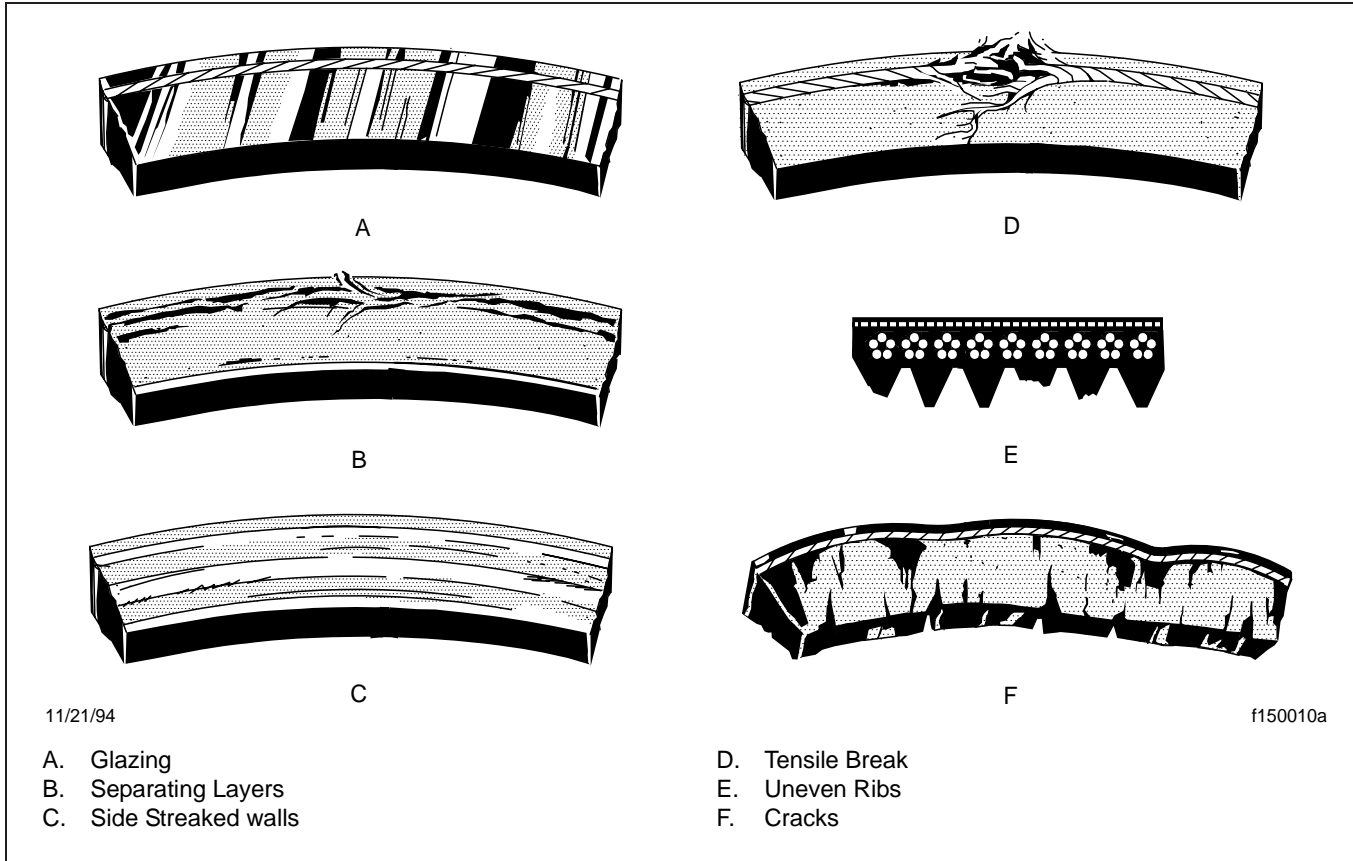

Fig 2, Drive Belt Replacement Conditions, V-Belts
1. Inspect the belt for glazing. See **Fig. 2**, Ref. A. Glazing is represented by shiny sidewalls, and is caused by friction created when a loose belt slips in the pulleys. It can also be caused by oil or grease contamination on the pulleys.
2. Check the belt for ply separation. See **Fig. 2**, Ref. B. Oil, grease, or belt dressing can cause the belt to fall apart in layers. Repair any oil or coolant leaks that are affecting the belts before replacing the drive belts. Do not use belt dressing on any belt.
3. Check the belt for a jagged or streaked sidewall. See **Fig. 2**, Ref. C. Jagged or streaked sidewalls are the result of foreign objects, such as sand or gravel in the pulley, or a rough pulley surface.
4. Check for tensile breaks; breaks in the cord body. See **Fig. 2**, Ref. D. Cuts in a belt are usually caused by foreign objects in the pulley, or by prying or forcing the belt during removal or installation.
5. Check for uneven ribs on serpentine (poly-V) belts. See **Fig. 2**, Ref. E. Foreign objects in the pulley will erode the undercord ribs, causing the belt to lose its gripping power.
6. Check the drive belts for cracks. See **Fig. 2**, Ref. F. Small irregular cracks are usually the signs of an old belt.